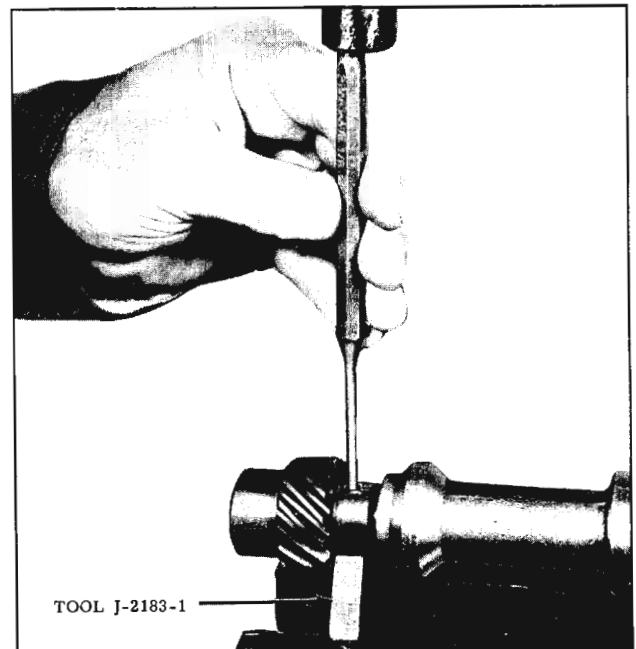

Fig. 14-50 Removing Roll Pin
2. Drive out the roll pin. (Fig. 14-50)